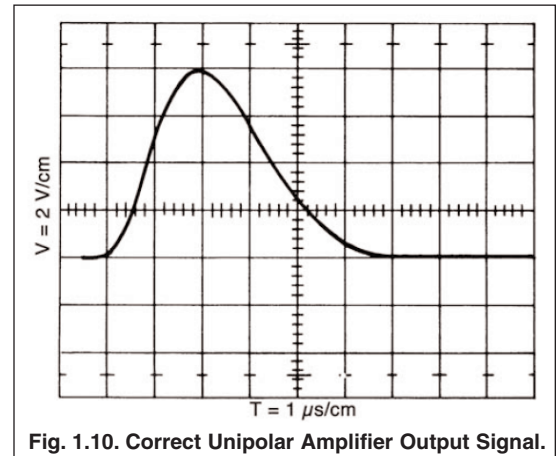

Fig. 1.10. Correct Unipolar Amplifier Output Signal.
5. Connect the second arm of the BNC tee on the 551 Timing SCA DC INPUT to the oscilloscope CH1 Input. Confirm that this routes the UNipolar OUTput of the 575A Amplifier via the tee to the oscilloscope CH1 Input. Adjust the amplifier gain controls until the output pulses have an amplitude of $8.5\ \text{V}$. The oscilloscope parameters should be the same as those in Table 1.1 except that the Vertical Scale should be $2\ \text{V}$ per major division, and the Horizontal Scale should be $1\ \mu\text{s}$ per major division. The correct output pulse should look like the signal shown in Fig. 1.10.